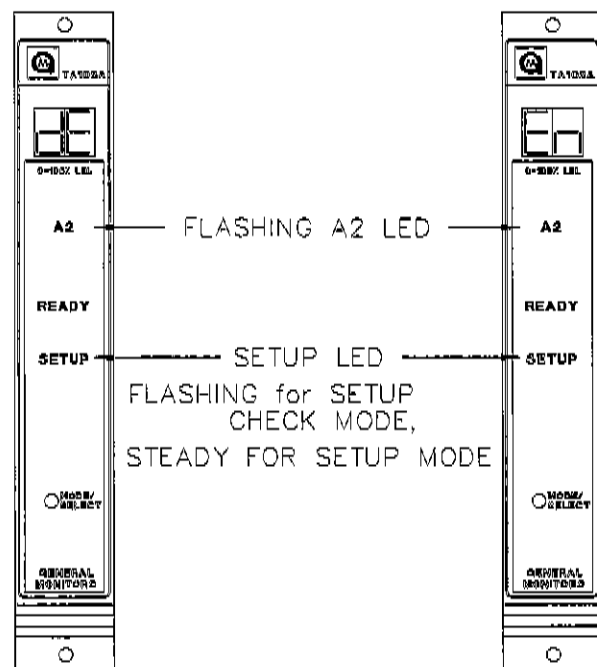

Figure 16
- After the Password and Inhibit mode options, the **A2** LED on the front panel will be flashing while the Energized/De-energized option is displayed (figure 16). The display will indicate the current selection, (**En** or **dE**). De-Energized is the factory default for this selection.